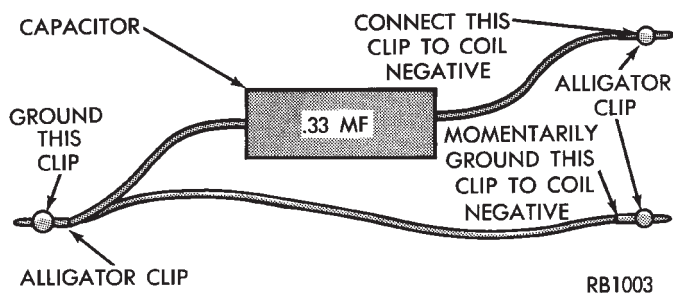
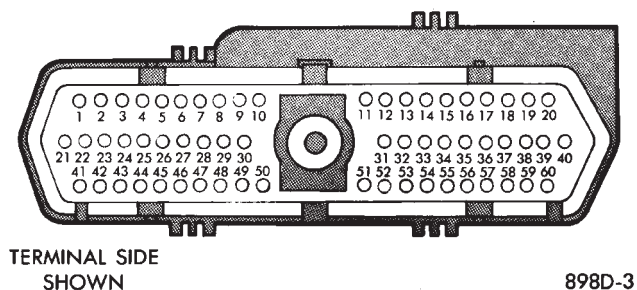

Fig. 4 Special Jumper to Ground Coil Negative
Fig. 5 60-Way Electrical Connector, Engine Controller
(5) Remove the connector to coil (+) and connect a jumper wire between battery (+) and coil (+).
(6) Using the special jumper (Fig. 4), momentarily ground terminal #19 of the 60-way connector (Fig. 5). A spark should be generated when the ground is removed.